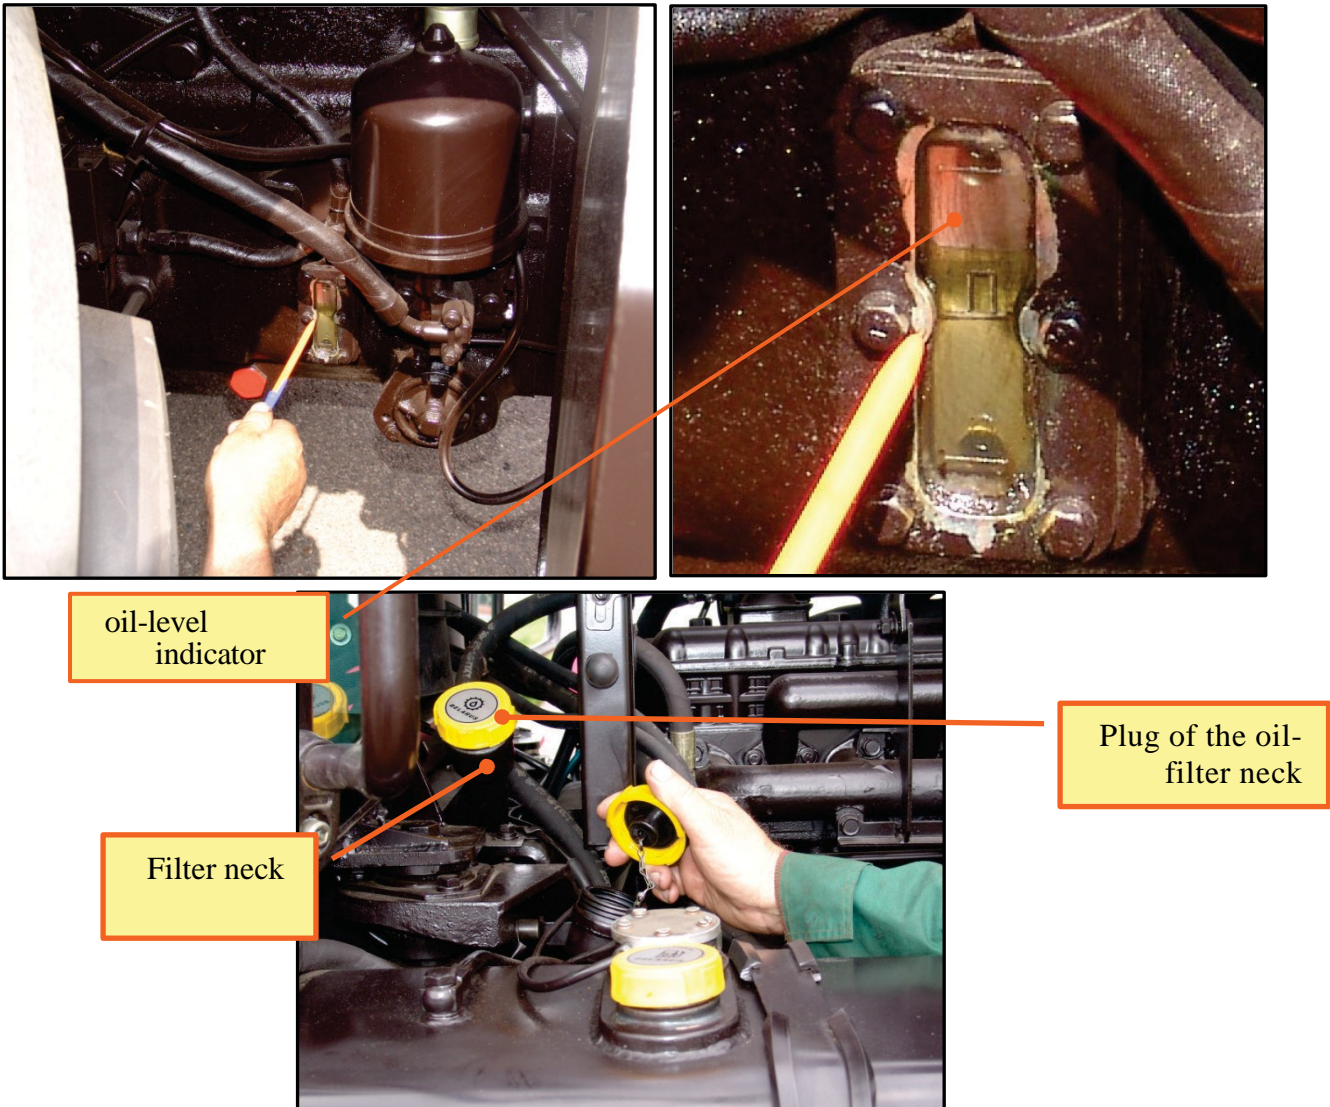

Figure 8.4
**Procedure 3. Checking the Oil Level in the Transmission Housing (Fig 8.4)**